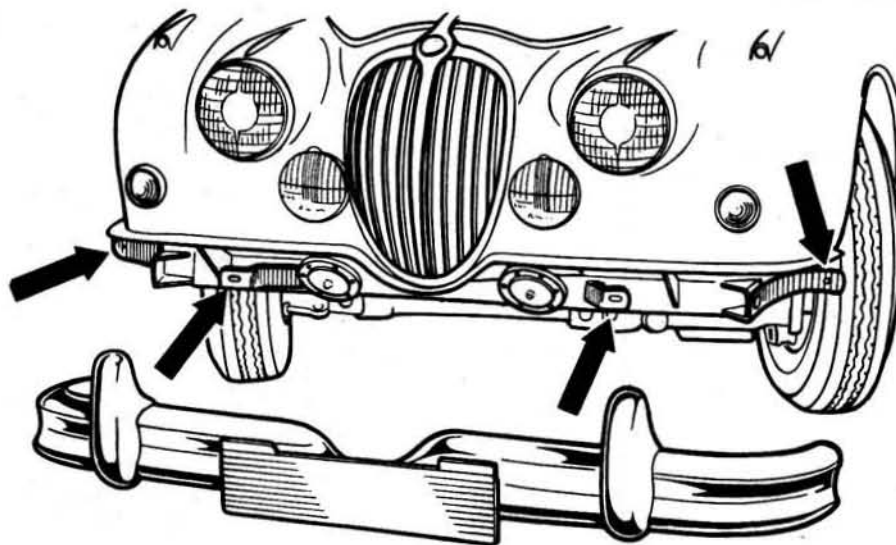

Fig.12.26. The attachment points for the front bumper
- 1 The attachment points for the front bumper are shown in Fig.12.26.